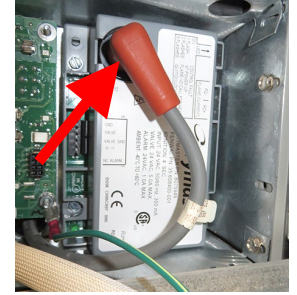

Figure 10
13. Attach the right spark cable (see Figure 10). The spark wire may have to be pulled slightly out of the control box to minimize the amount of spark cable in the control box.